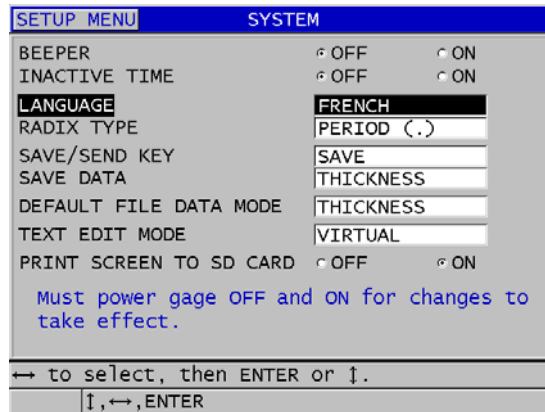

Figure 4-1 Selecting the user interface language
3. In the **SYSTEM** screen (see Figure 4-1 on page 50):